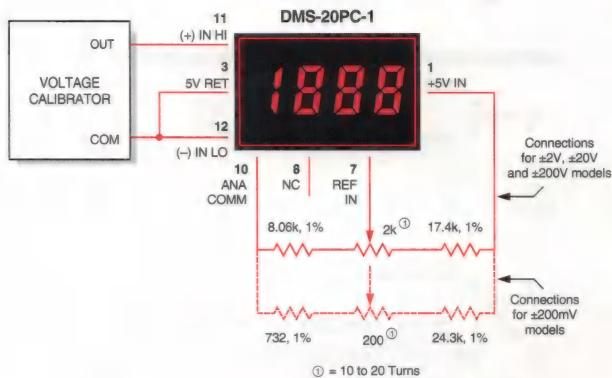

Figure 10. External Gain Adjustment
6. Gain Adjust: There is a gain-adjust potentiometer on the back of each meter. It has approximately ± 50 counts ($\pm 2.5\%$) range of adjustment. Since these devices essentially have no zero/offset errors, a gain adjustment is effectively an overall accuracy adjustment. Though they may be performed at any point (except zero), accuracy adjustments are most effective when performed with higher level input signals. The circuit shown in Figure 10 provides $\pm 10\%$ range of adjustment.
8. **External Gain Adjustment:** Connect REFERENCE OUT (pin 8) to REFERENCE IN (pin 7) for normal, factory calibrated, operation. Use the circuit shown in Figure 10 for applications needing external gain adjustment. Calibration is performed with a precise, near-full-scale, input voltage.